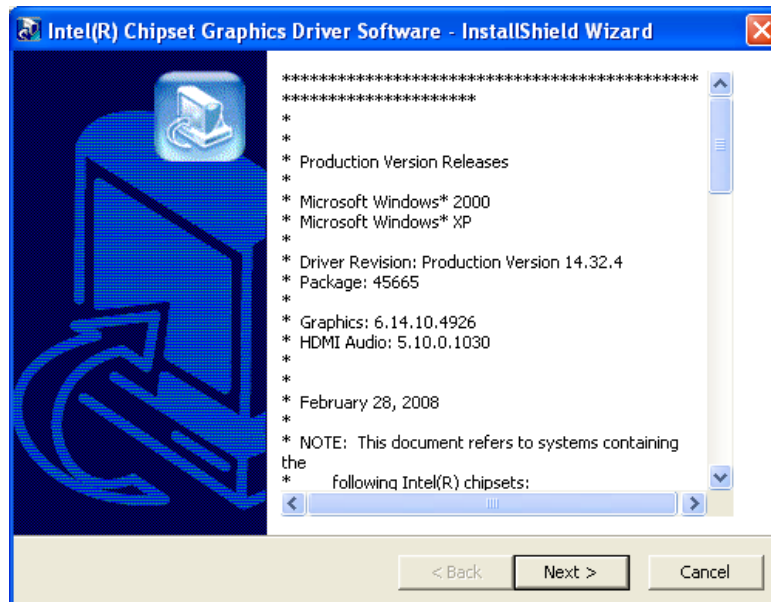

Figure 7-7: Graphics Driver Read Me File
- Step 4:** The **Read Me** file in **Figure 7-7** appears.